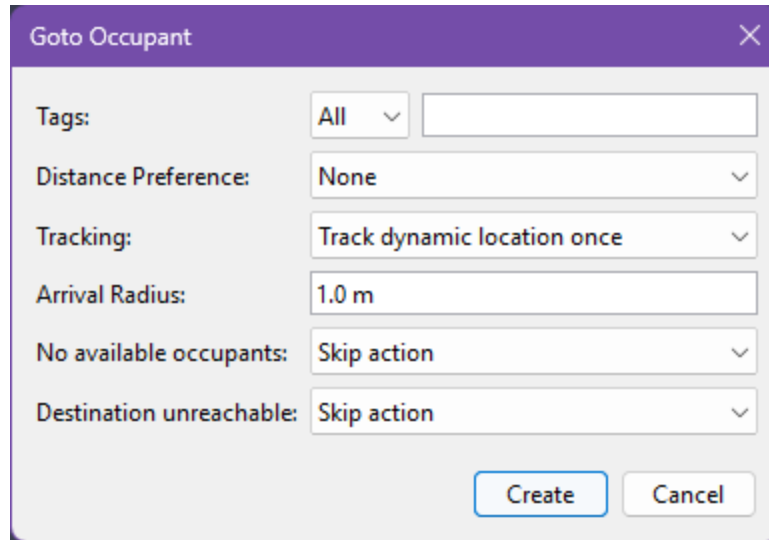

Figure 113. Goto Occupant Dialog
2. Enter the desired parameters in the **Goto Occupant** dialog as described below and shown in Figure 113.